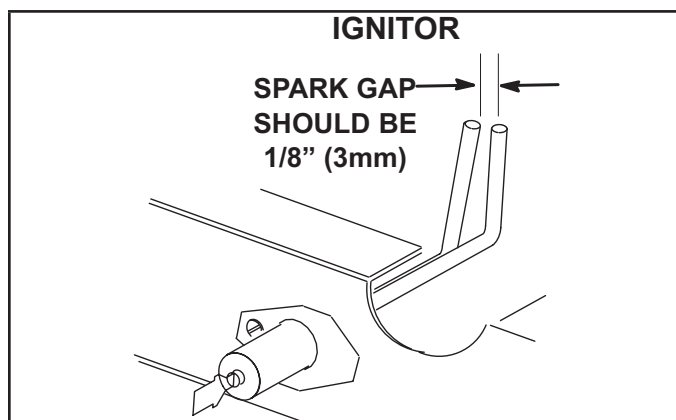

FIGURE 39
- 4 - Locate the ignitor under the left burners. Check ignitor spark gap with appropriately sized twist drills or feeler gauges. See FIGURE 39.